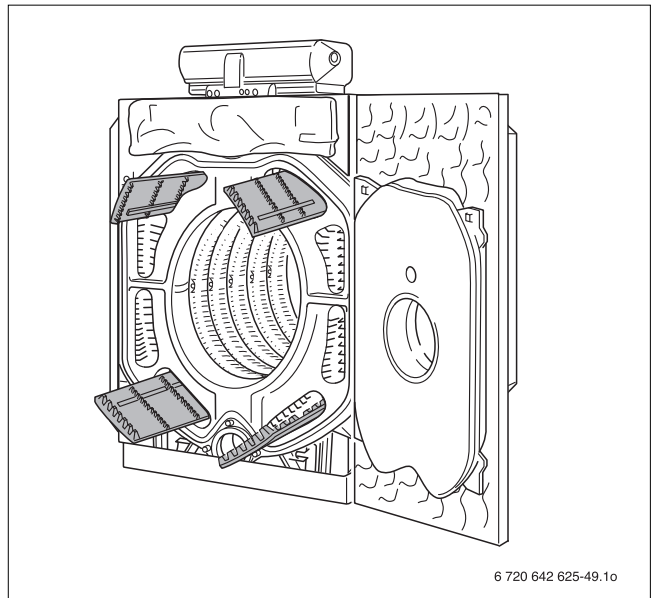

Fig. 60 Flue gas baffles, removing
- ▶ Remove the flue gas baffles from the heat exchanger (→ Fig. 60).